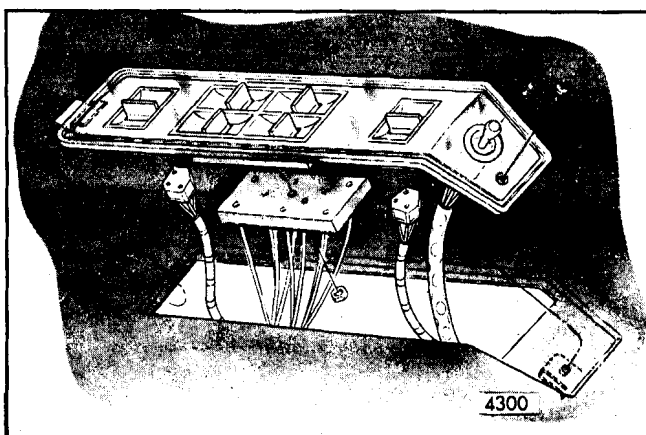

Fig. 13-6-Door Armrest Switch Cover Plate and Remote Mirror Cable Attachment (Cadillac Styles)
5. On styles equipped with switch cover plate in door arm rest, remove screws securing cover plate and disconnect switches and cigar lighter (if equipped) from wire harness connectors (Fig. 13-6).